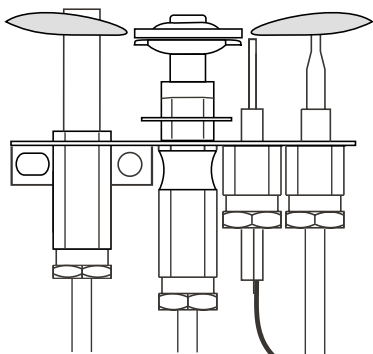

Figure 13. Pilot Burner
2. Adjust pilot screw to provide properly sized flame as shown in figure 13).